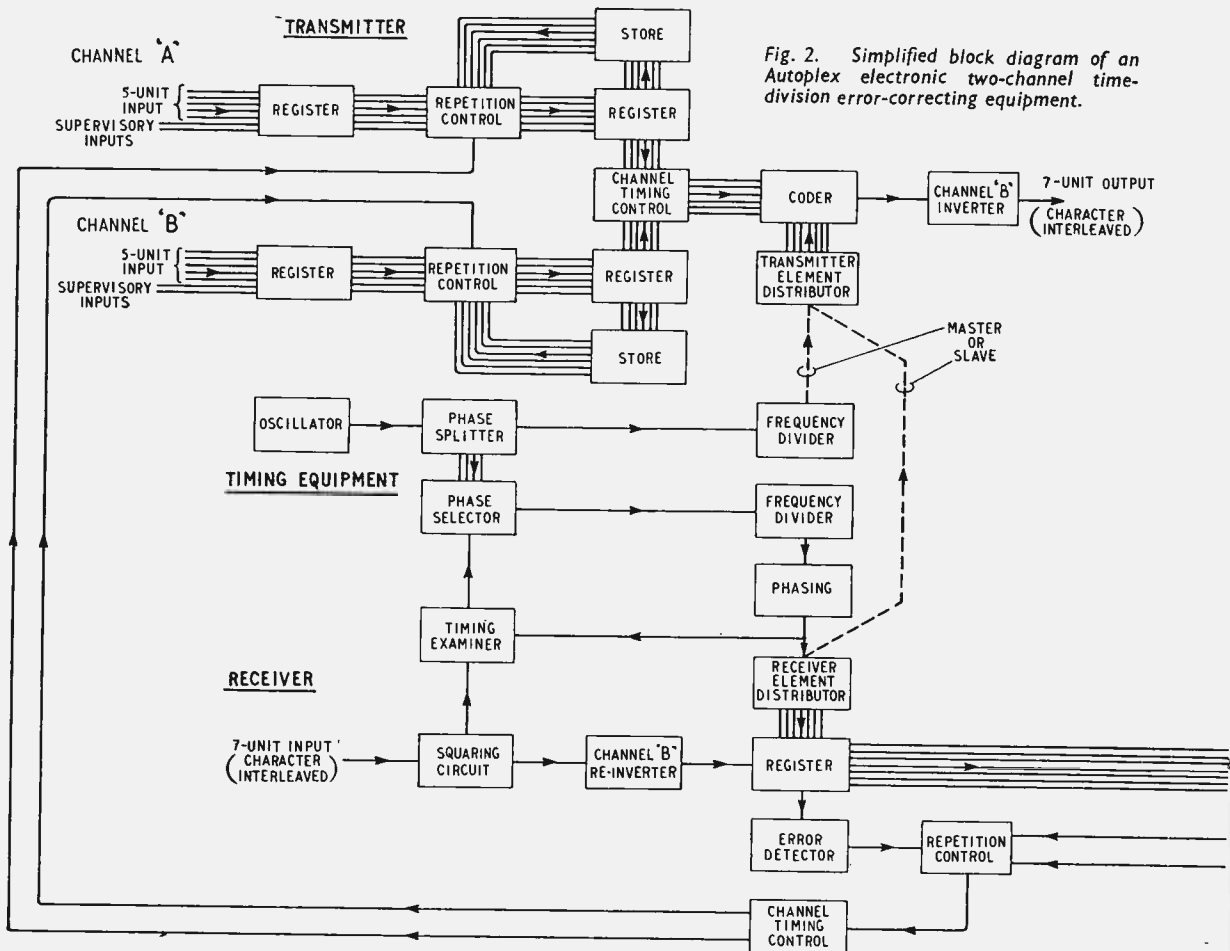

Fig. 2. Simplified block diagram of an Autoplex electronic two-channel time-division error-correcting equipment.
The simplified block diagram of an Autoplex two-channel time-division error-correcting terminal equipment is shown in Fig. 2. In this system the storage of transmitted characters precedes the coder, thus permitting the use of common translation equipment.
**Timing Circuits.**—Referring to Fig. 2, the transmitter and receiver element distributors are driven from a high-stability 9.6 kc/s crystal oscillator via ring-counter frequency dividers. By switch selection of the scale of division the equipment can operate at aggregate speeds of 85.5/7, 96 or 100 bauds.
**Transmitter Circuits.**—Referring to Fig. 2, 5-unit characters or supervisory signals to be transmitted over the system are registered at the inputs of the channels. Since 35 different signals have to be presented to the coder, and there are only 32 permutations in 5-unit code, the first register acts as a simple coder and provides a 6-wire output to a further register. In the 6-unit code a mark is added as the sixth element to normal characters, and supervisory signals are formed by permutations in which the sixth element is space. The channel timing control, driven by the transmitter channel distributor (see Fig. 3), causes characters from the two 6-unit registers to be passed in turn to the coder where the translation to 7-unit code is effected. As each character is transmitted over the system it is also